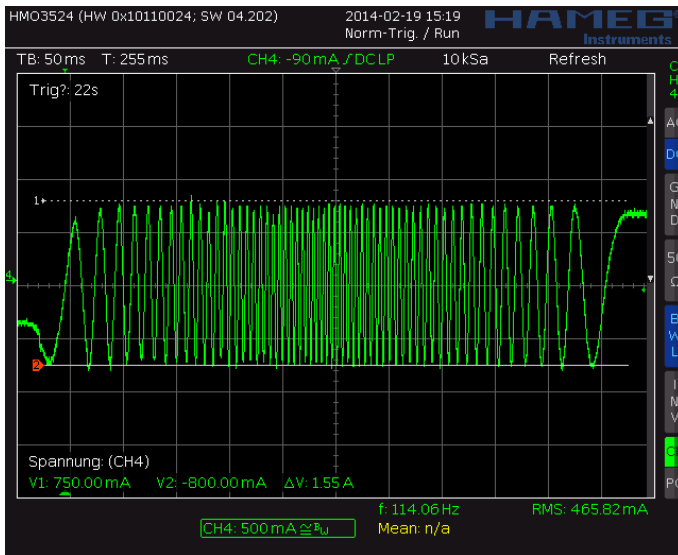
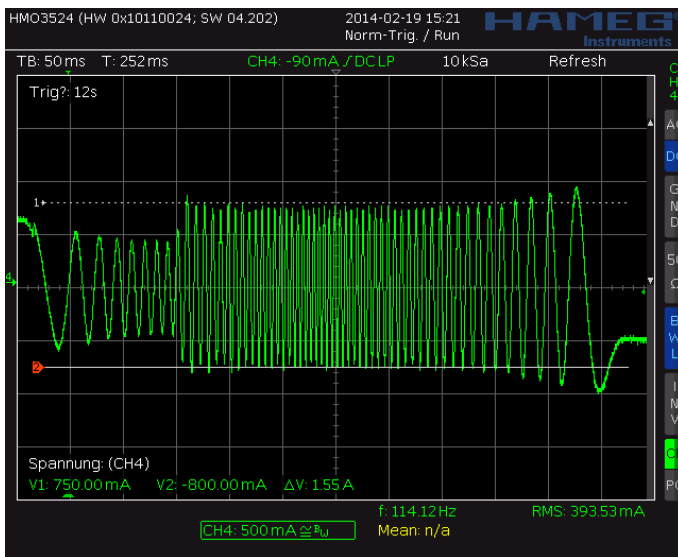
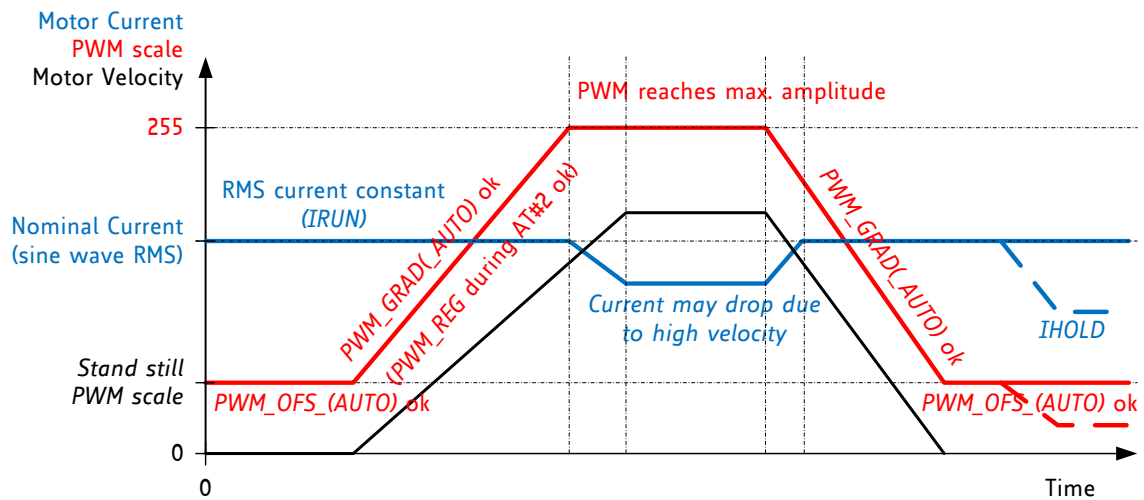

Figure 6.3 Scope shot: good setting for PWM_REG
Figure 6.4 Scope shot: too small setting for PWM_REG during AT#2
Figure 6.5 Successfully determined PWM_GRAD(_AUTO) and PWM_OFS(_AUTO)
In StealthChop voltage PWM mode, the autoscaling function ($pwm_autoscale = 1$, $pwm_auto_grad = 1$) regulates the motor current to the desired current setting. Automatic scaling is used as part of the automatic tuning process (AT), and for subsequent tracking of changes within the motor parameters. The driver measures the motor current during the chopper on time and uses a proportional regulator to regulate PWM_SCALE_AUTO in order match the motor current to the target current. PWM_REG is the proportionality coefficient for this regulator. Basically, the proportionality coefficient should be as small as possible in order to get a stable and soft regulation behavior, but it must be large enough to allow the driver to quickly react to changes caused by variation of the motor target current (e.g. change of $VREF$). During initial tuning step AT#2, PWM_REG also compensates for the change of motor velocity. Therefore, a high acceleration during AT#2 will require a higher setting of PWM_REG . With careful selection of homing velocity and acceleration, a minimum setting of the regulation gradient often is sufficient ($PWM_REG=1$). PWM_REG setting should be optimized for the fastest required acceleration and deceleration ramp (compare Figure 6.3 and Figure 6.4). The quality of the setting PWM_REG in phase AT#2 and the finished automatic tuning procedure (or non-automatic settings for PWM_OFS and PWM_GRAD) can be examined when monitoring motor current during an acceleration phase Figure 6.5.